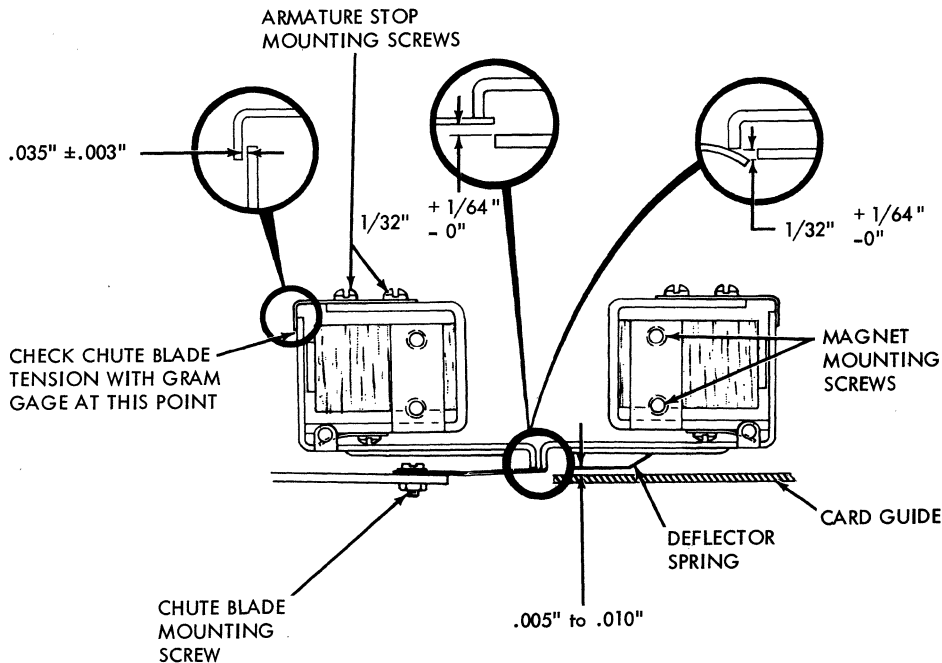

Figure 3-37. Chute Blade and Select Magnet Adjustments
1. Check for fretting corrosion or rust, and excessive wear at select magnet armature pivot. See Figure 3-37.
3. With pocket selector magnet armatures attracted, adjust each armature for  $.035'' \pm .003''$  clearance between upper part of armature and stop. See Figure 3-37.
4. Adjust selector magnet assembly (by means of the mounting screws) to position the chute blades  $1/32'' + 1/64'' - 0$  above card line when the magnets are not energized, and  $1/32'' + 1/64'' - 0$  below the card line when the magnets are energized. See Figure 3-37.
5. Adjust chute blade tension so that a force of 150 to 350 grams, applied to the 2 or 8 selector magnet armature at a point just under armature backstop, holds the armature fully attracted. A force of 75 to 200 grams should hold select magnet 1 or 4 armatures fully attracted. See Figure 3-37.
7. Position selector magnet deflector spring for .005" to .010" clearance above lower card guide. See Figure 3-37.